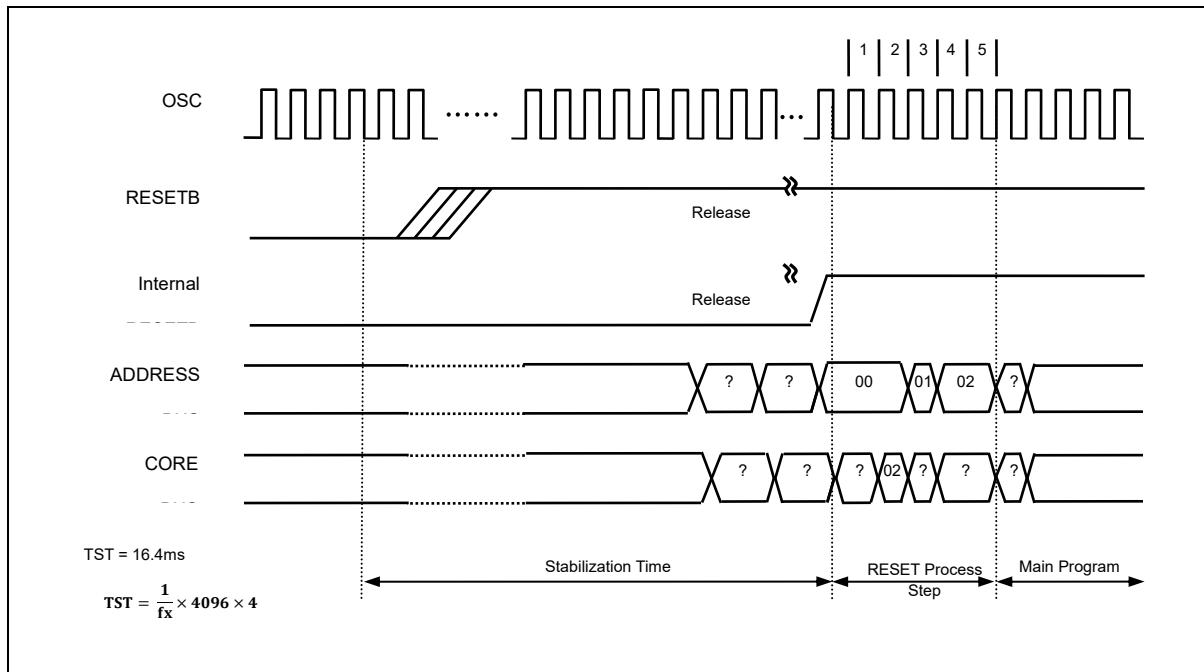

Figure 85. Timing Diagram after RESET
- As shown in Figure 85 and Figure 86, the stable generating time is not included in the start-up time.